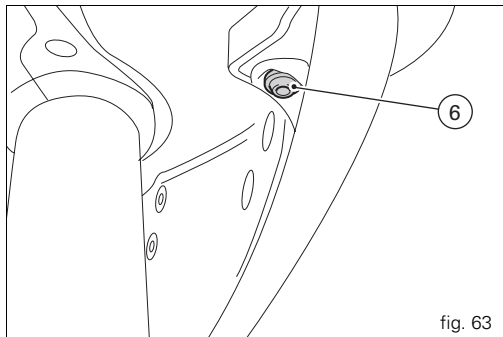

fig. 63
Remove the side fairings using the Allen key located in the underseat compartment; unscrew: the two bolts (1) securing the fairing panels to the brackets; the six bolts (2) securing the fairing panels to the headlight fairing; the four bolts (3) securing the fairing panels to the frame; the eight bolts (4) securing the fairing panels to the undersump; the two bolts (5) securing the fairing panels to the oil cooler; the two bolts (6, fig. 63) securing the front of the fairing to the headlight fairing.